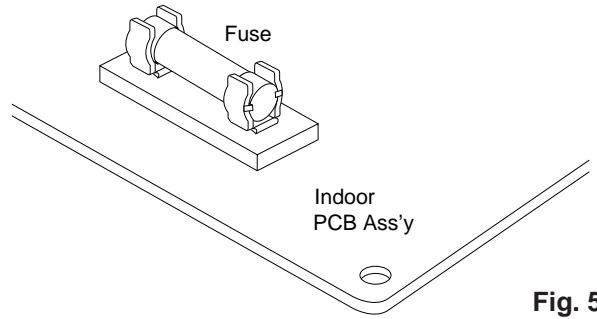

Fig. 5a
2. Then pull out the fuse from the PCB Ass'y.(Fig.5a)